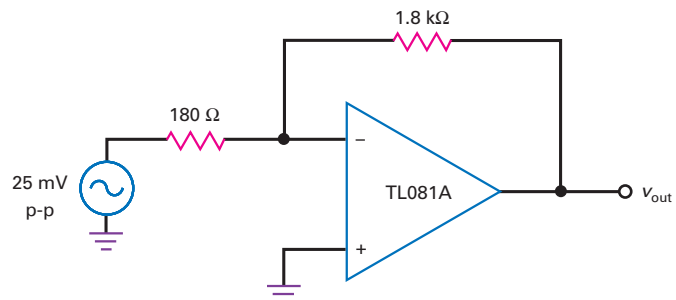

Figure 35-33
- 35.6 What are closed-loop voltage gain and bandwidth in Fig. 35-33? What is the output voltage at 1 kHz? At 10 MHz? Draw the ideal Bode plot of closed-loop voltage gain.